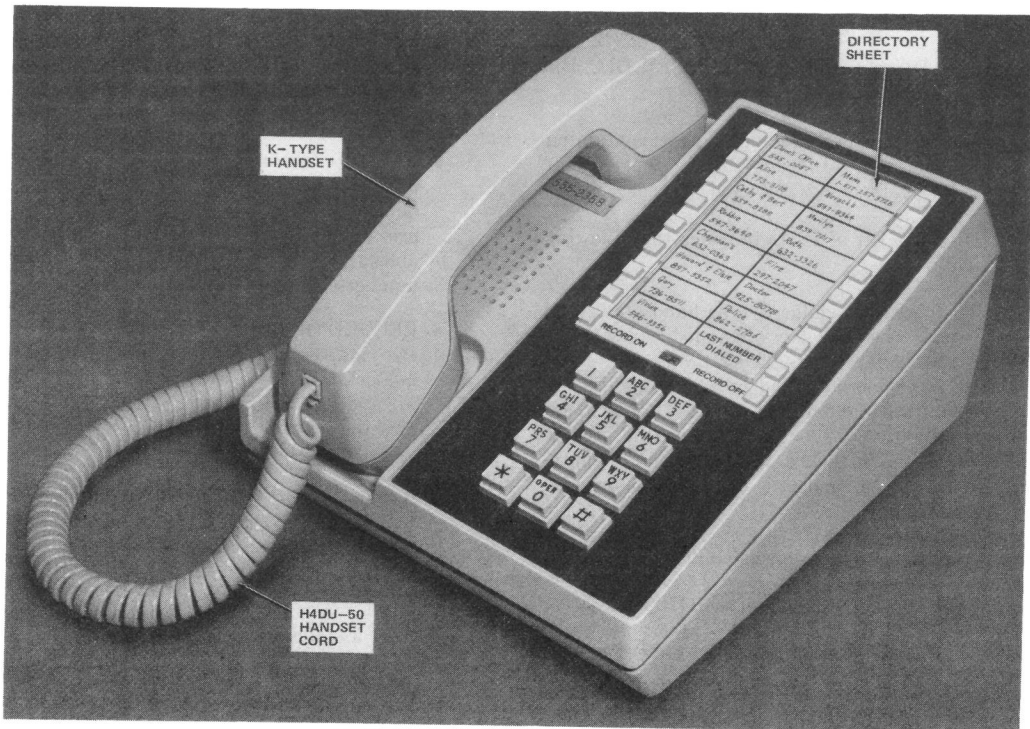

Fig. 1—2960A01M (MD) Telephone Set
**1.01** This section contains information on the 2960A01M manufacture discontinued (MD) telephone set. This set is shipped from the factory as a desk set (Fig. 1) and can easily be converted to a wall set with no additional parts required.